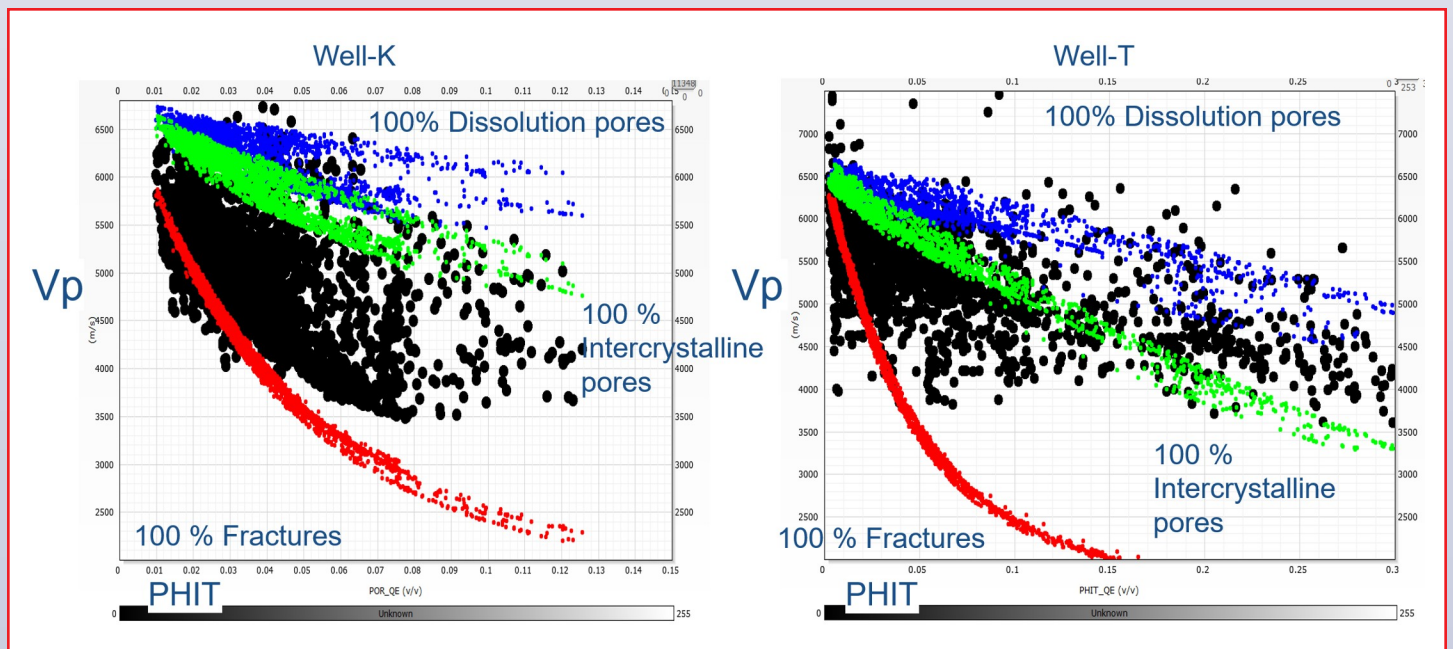

Figure 8: Cross plots of P-wave velocity versus total measured data porosity (black dots) and models for different pore types for Wells T and K.
*Figure 8* shows P-wave velocity versus total porosity cross plots of measured data and modeled data for different pore types of Wells T and K. In Well-T, we can observe two trends of the Vp-porosity relationship; for porosities lower than 15%, most of the data are below the P-wave velocity model of intercrystalline pores, and, at porosities higher than 15%, most of the measured data (black dots) are found above the P-wave velocity model of intercrystalline pores, which suggests that dissolution pores are increasing the total porosity.